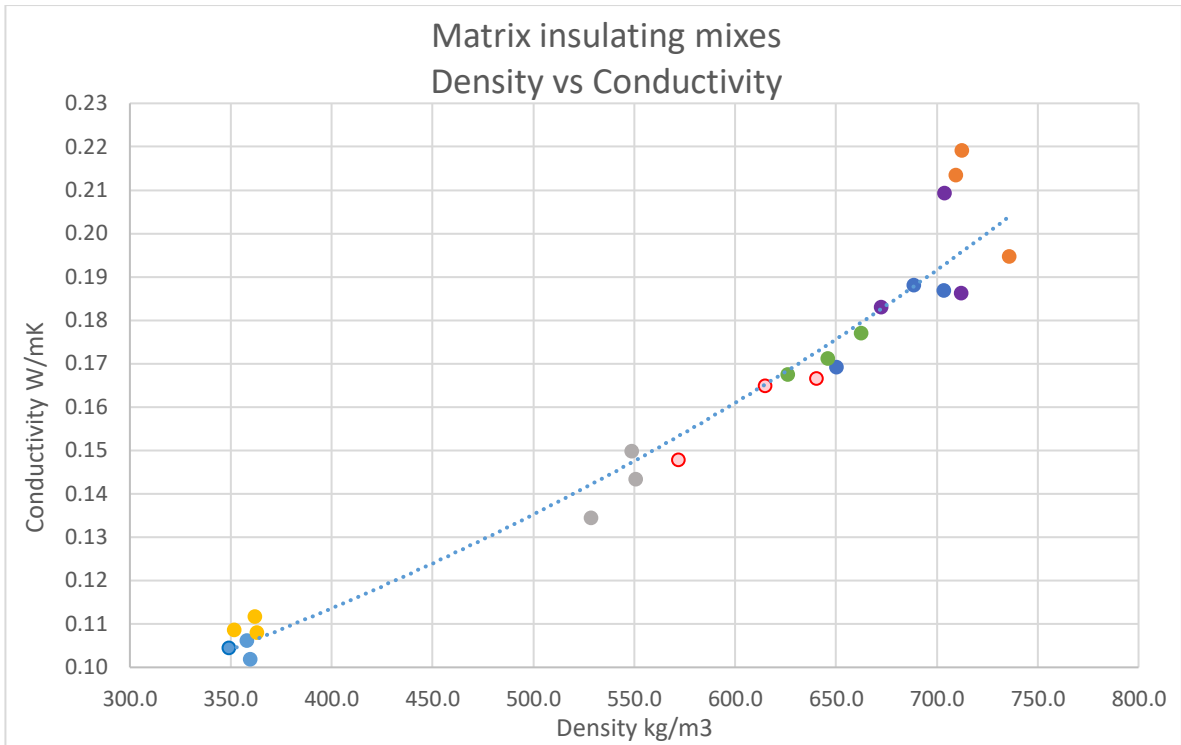
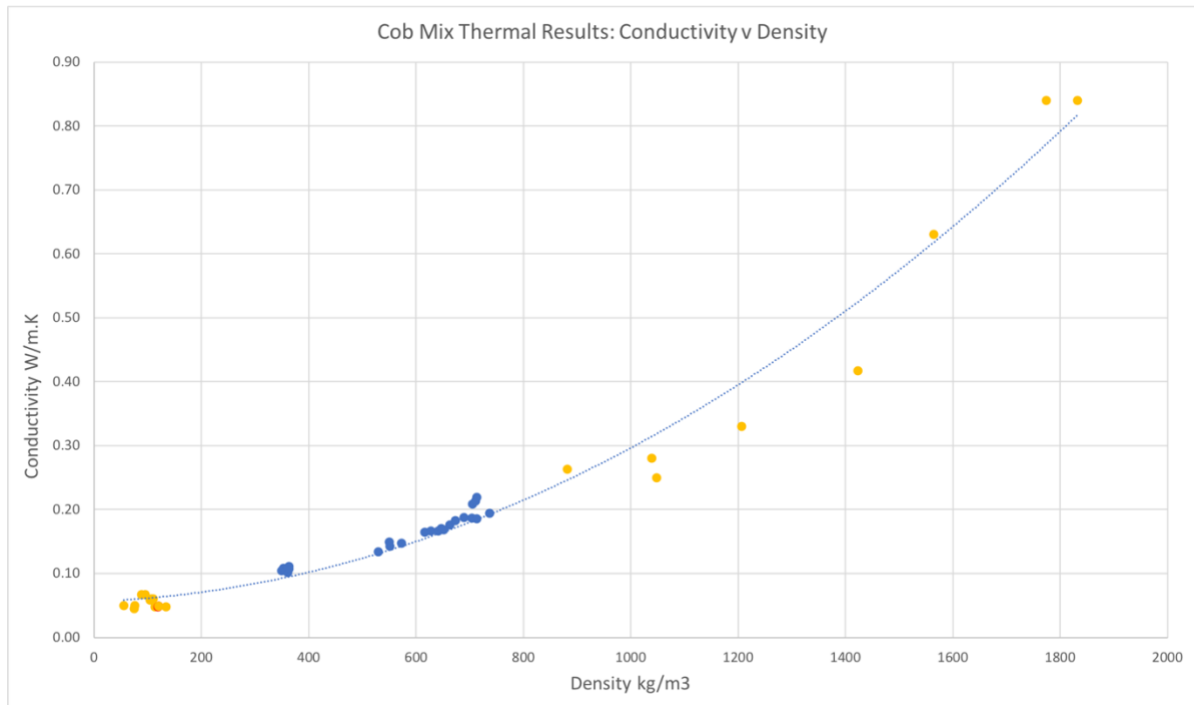

Fig.1 Results of Plymouth testing of insulating cob tiles
Fig.2 The results from Fig.1 shown in a wider context
- Fig.1 Results of Plymouth testing of insulating cob tiles 5
- Fig.2 The results from Fig.1 shown in a wider context 5
In this graph, the results from Fig.1 are shown in blue, with a wider range of results shown in yellow to demonstrate where the insulating cob results fit on a longer curve. The yellow markers with a lower conductivity are from the testing of the different fibres